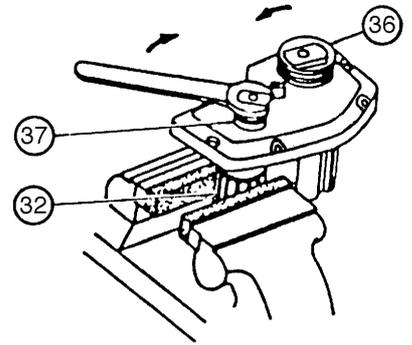

Fig. 5
### 1-3-2. Pulley (A) and Pulley (B) Disassembly (See Fig. 5)
- (1) Pulley (A) [37] (right-hand threaded) and Pulley (B) [36] (left-hand threaded) are screwed onto the armature shaft and the cutter block spindle respectively. To remove Pulley (A), fix the Armature [32] firmly in a vise, and unscrew the pulley in a clockwise direction with a wrench.
- (2) To remove Pulley (B), fix the cutter block firmly in a vise, and unscrew the pulley in a counterclockwise direction with the wrench. It is recommended that gloves or a thick rag be used to prevent injury to fingers and hands.